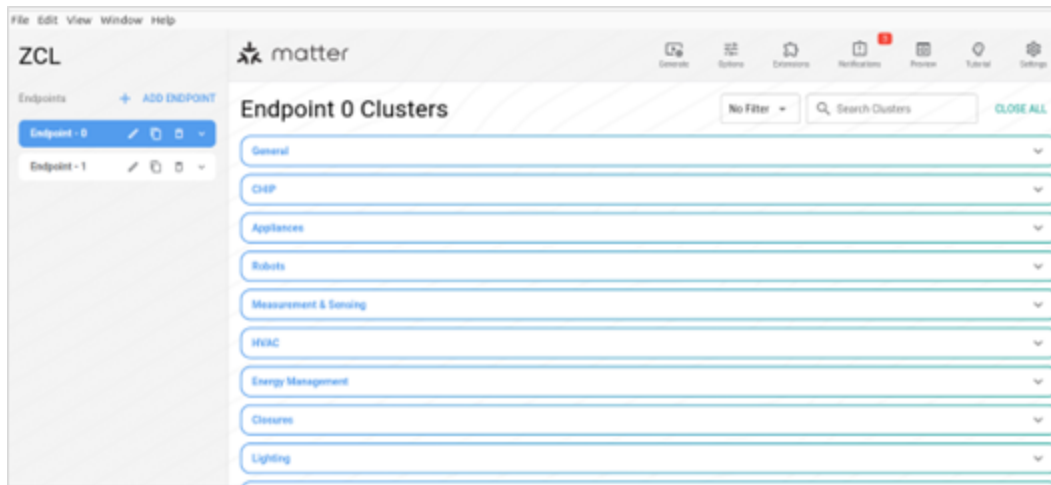

Figure 16. Door Lock Attributes in ZAP tool
4. Configure Door Lock attributes: After enabling the cluster, click the settings icon (⚙️) next to the Door Lock Cluster to open its detailed configuration panel. Go the **Attributes** tab (or section) within this panel, for details see Figure 16.
- LockState (ID: 0x0000): reports the current state of the lock (locked, unlocked). Select the corresponding checkbox. In Figure 16, ZAP often shows mandatory attributes or prevents them from being disabled. For **Storage Option**, select **NVM** (Non-Volatile Memory). It is paramount that your door's lock state persists across power cycles. If power is lost and restored, the lock must return to its last known state. You might set an initial **Default Value** here, typically representing the UNLOCKED or LOCKED state on factory reset.